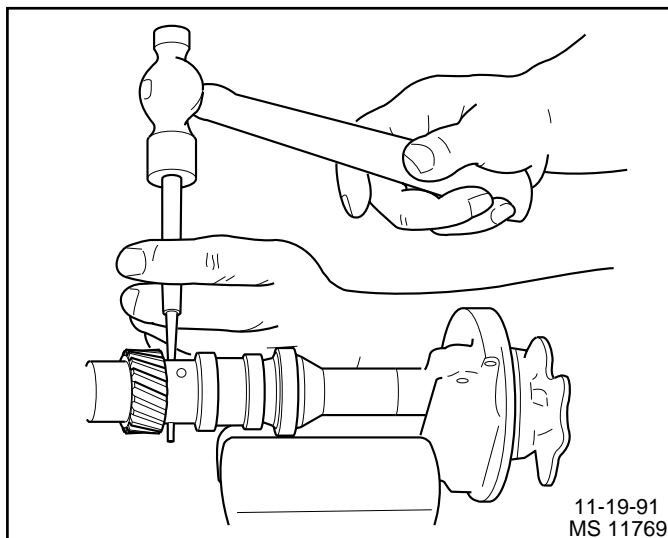

Figure 4-8 - Removing the Roll Pin
- Any time the distributor is disassembled, the retainer (5) must be replaced. Do not attempt to reuse the old retainer.
1. Screws (1) and washers holding the cap to the housing.
2. Cap (2) from the housing.
3. Rotor (3) from the shaft by lifting or prying straight up.
4. Roll pin (15) from the shaft (4).
- Drive out the roll pin with a small punch (Figure 4-8).
5. Drive gear (14), washer or spring (13) and spring retainer or tang washer (12).
6. Shaft (4) with pole piece (8) and plate from the housing (11).
7. Retainer (5) from the housing (11).
8. Shield (6).
9. Pick-up coil connector from the module (10).
10. Pick-up coil (7).